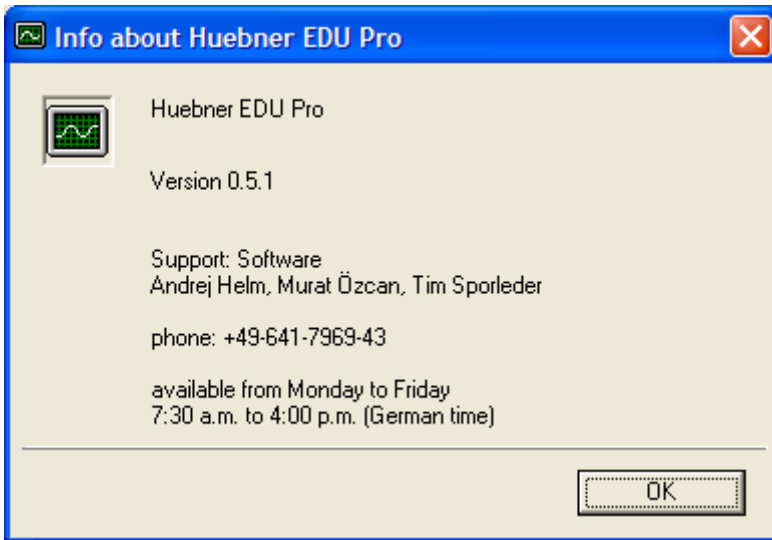

Fig. 19: "About" window
2. – “Info” menu call. Continue Fig. 19.